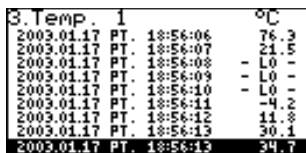

Fig. 6.8. "Measurements list" mode
- "Measurements list" mode (Fig. 6.8) enables the momentary values recorded during the set period of time or averaged values of the conducted measurements for one of the measurement channels to be viewed in numeric form.